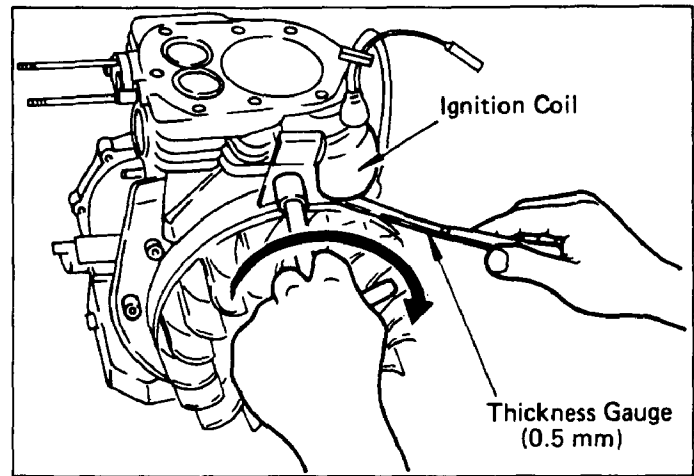

Fig. 45
- 2) After measuring the air gap between the ignition coil and flywheel, retighten the ignition coil. (See Fig. 45.)